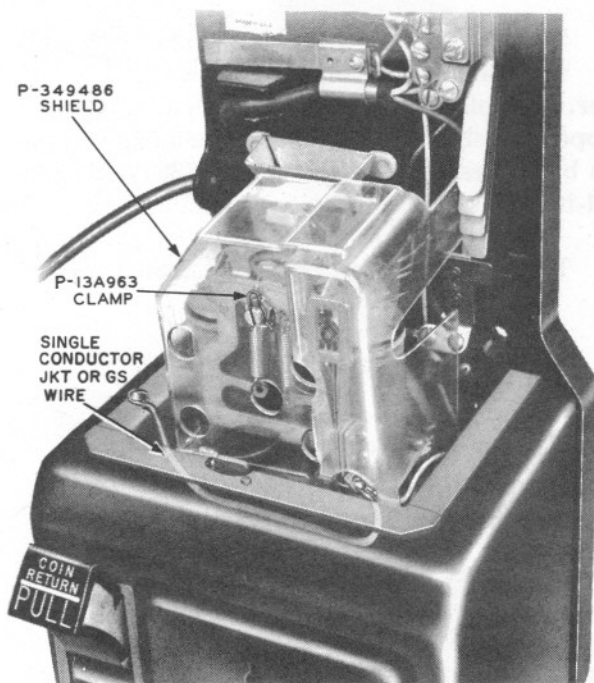

Fig. 6 – Method of Grounding Backplate Assembly, Open-type Installation
- On prepay open-type installation, coin collector backplate assembly shall be grounded by connecting a single conductor of JKT or GS insulated wire between coin relay ground termination and mounting screw on left side of mechanism base (see Fig. 6). Lockwasher under mounting screw shall be removed. Dress wire so that it will not interfere with placing of coin relay shield.
7.03 Plastic shield is held in place with a P-13A963 clamp (furnished with shield). Clamp is slipped down over front pivot screw of coin relay as shown in Fig. 6. Clamp is not used on fiber shield.